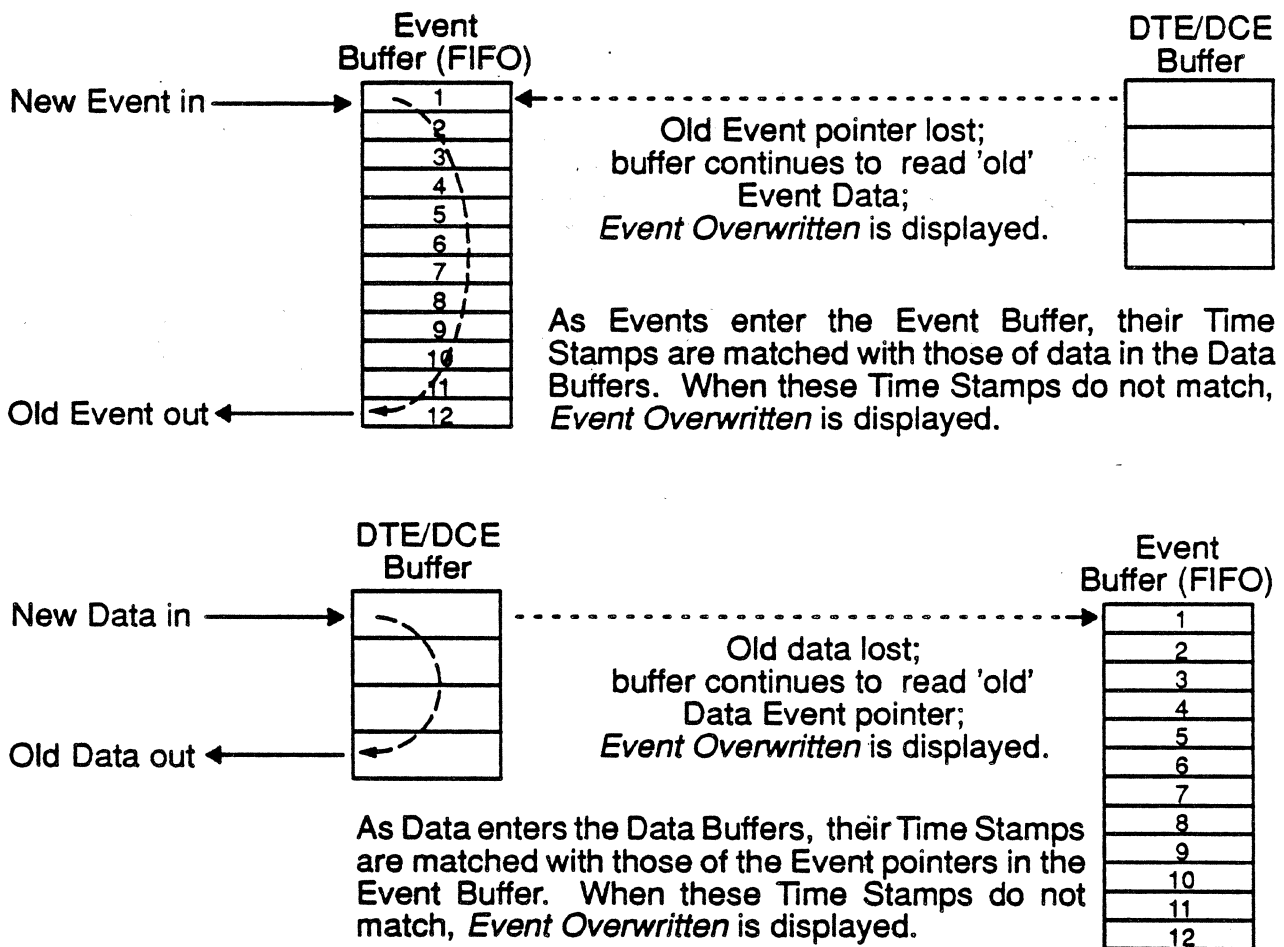

Figure 4.6: *Event Overwritten* processes.
These two conditions are: (1) when the Event buffer wraps around and overwrites the Event pointer to the data currently being read; or, (2) when the DCE or DTE data buffer wraps and overwrites the data currently being read. When the History or Real Time application attempts to access either events or data which have been overwritten, *Event Overwritten* is displayed on the appropriate side (DCE/DTE) of the page. Figure 4.6 illustrates these *Event Overwritten* processes.